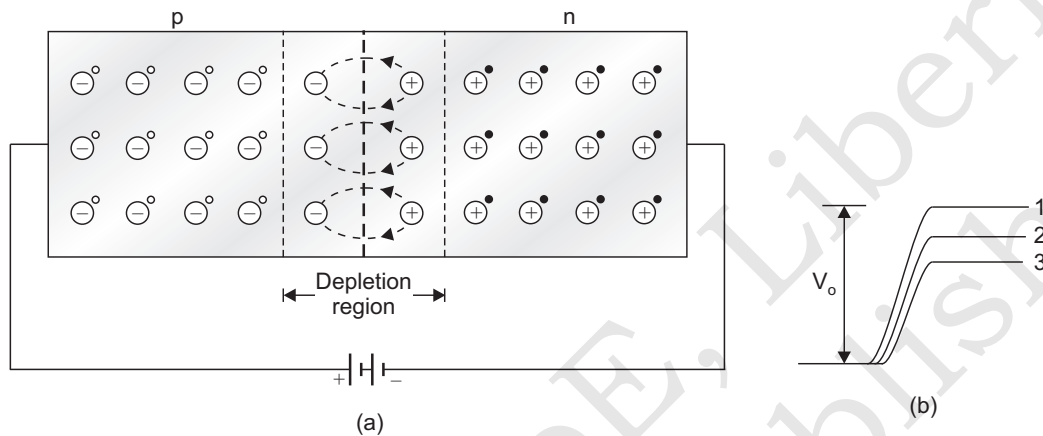

Fig. 4.23. (a) p - n junction diode under forward bias. (b) Barrier potential.
negligible. The direction of the applied voltage (V) is opposite to the built-in potential V_0 . As a result, the depletion layer width decreases and the barrier height is reduced [Fig. 4.23]. The effective barrier height under forward bias is $(V_0 - V)$.